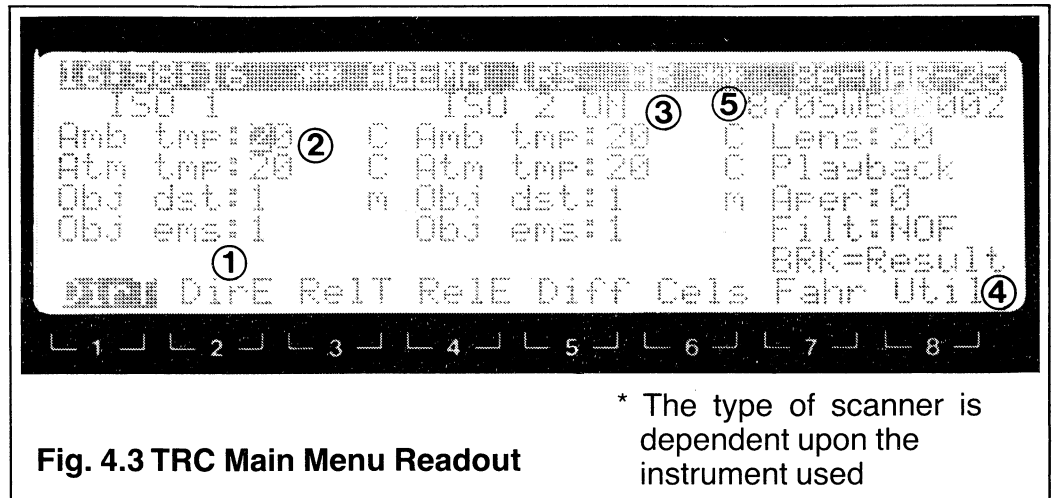

Fig. 4.3 TRC Main Menu Readout
- (b) Press the red PWR (power) button on the TRC. This action will restart the TRC from where it was previously switched off, if it was left in INPUT mode. In any other mode the menu/parameter list shown in fig. 4.3 will be displayed, including the main menu (MENU) at the bottom of the display. If any of the displayed parameters (except the scanner type and serial number) need to be altered before the measurement result is automatically calculated, refer to sub para (e). Aper and Filt are default values, which refer to play back from the Video Tape Recorder. Enter the values used during the recording as new default values and they will be shown in the RESULT display.
5. Type of scanner shown in fig. 4.3 will depend on the instrument used.